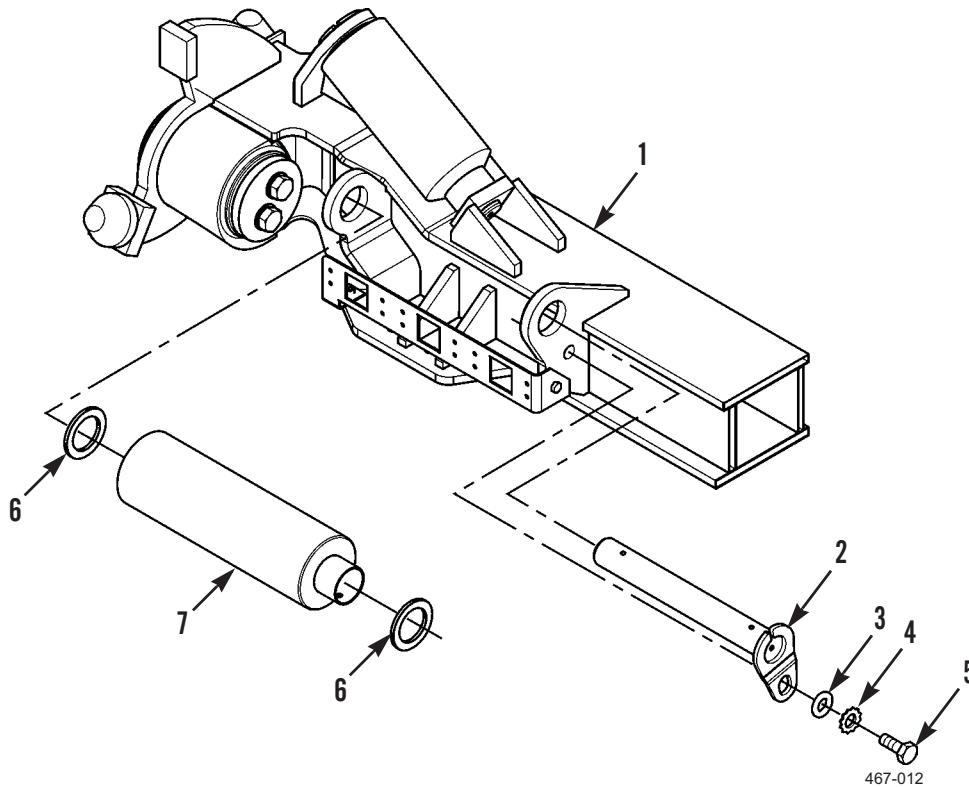

Figure 2. Flatrack Roller.
2. Remove bolt (Figure 2, Item 5), star washer (Figure 2, Item 4), and washer (Figure 2, Item 3) from rear beam (Figure 2, Item 1). Discard star washer.
3. Remove roller pin (Figure 2, Item 2), two thrust washers (Figure 2, Item 6), and flatrack roller (Figure 2, Item 7) from rear beam (Figure 2, Item 1).
1. Apply grease to roller pin (Figure 2, Item 2).
2. Install flatrack roller (Figure 2, Item 7), two thrust washers (Figure 2, Item 6), and roller pin (Figure 2, Item 2) on rear beam (Figure 2, Item 1).
3. Install washer (Figure 2, Item 3), new star washer (Figure 2, Item 4), and bolt (Figure 2, Item 5) on rear beam (Figure 2, Item 1).